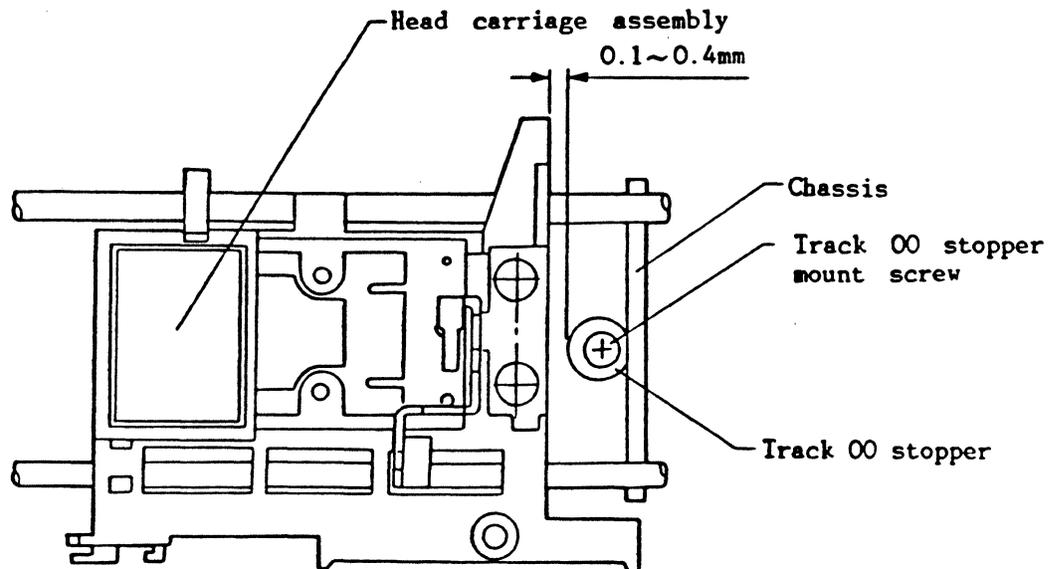

Fig. 419 Track 00 Stopper Adjustment
- (5) Check whether or not the voltage at IP7 is 3V or more after the head is shifted to track 02 (F-5002) or track 04 (F-5004).
- (6) If the voltages in items (3) and (5) above are not within the specified range, adjust the track 00 sensor position using the following procedure.
- (a) Loosen the track 00 stopper mounting screw (refer to Fig.419) and move the stopper in the step-out direction (away from the back part of the head carriage).
- (1) Shift the head to track 00.
- (2) Check if there is a very small gap (approx. 0.1~0.4msec.) between the end of the track 00 stopper and the head carriage. (Refer to Fig.419)
- (3) Make sure there is no contact between the head carriage and track 00 stopper when the head is moved back and forth repeatedly between track 00 and a place a few tracks inside.
- (4) When the conditions of items (2) and (3) are not satisfied, adjust the track 00 stopper position using the following procedure.
- (c) Repeat the procedure given in items (1)~(3).